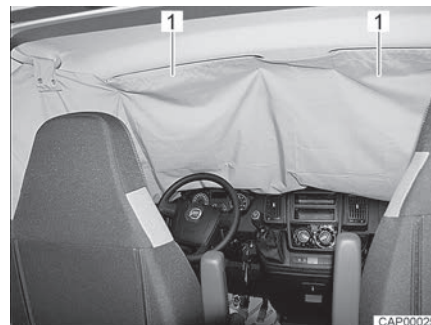

Fig. 15 Cabin black-out shade on windscreen
- Push pockets (Fig. 15,1) of cabin black-out shade over the two sun visors.